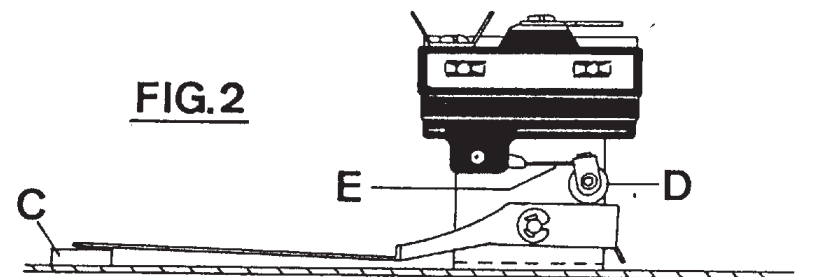

FIG. 2
3. Place  $\frac{3}{8}$ " x  $\frac{5}{8}$ " (10 mm x 16 mm) spacer bar or equivalent "C" (figure 2) under air blade in position shown; hold switch mounting bracket firmly and adjust switch actuator "D" with needle nose pliers at "E" by twisting actuator right or left, whichever is needed, so that switch closes when end of air blade engages bar "C".